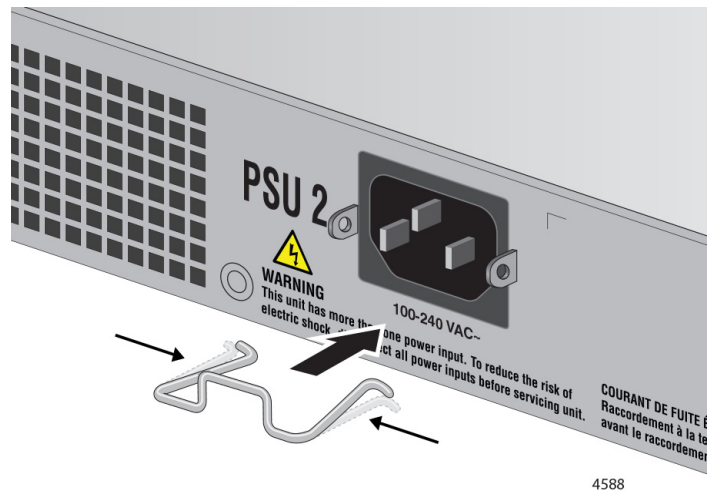

Figure 56. Installing the Power Cord Retaining Clips
1. Install the power cord retaining clips on the AC power cords on the rear panel of the switch. Refer to Figure 56.